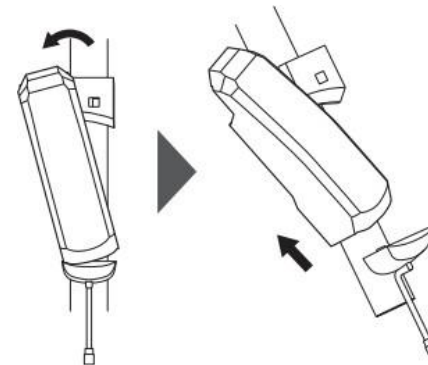

Figure 5.7
3. Remove the battery. See Figure 5.7.